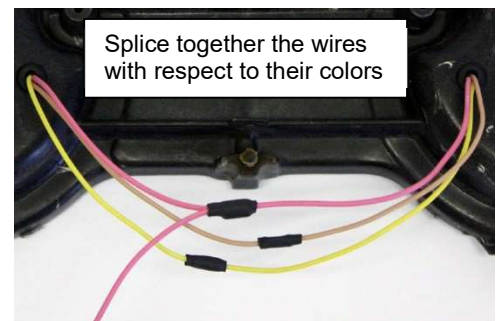

Figure 3
- 3.5. On each housing, bring each matching color wire together for splicing with moderate slack. Cut off excess wire length and strip off 3/16" insulation off each wire. Slide a piece of heat shrink tubing over all wires on the outboard wires. Using the butt splices provided, insert the one color wire into each side and crimp the wires together. Then slide the heat shrink tubing over splice and shrink into place with a heat gun or other suitable heat source. (See Figure 3)
NOTE FOR PINK WIRE SPLICE: The pink wire splice will require a pre-cut 6" pink wire length joining with the inboard panel's pink wire into the splice. When completed, the pink wire splice should resemble what is shown in Figure 3.